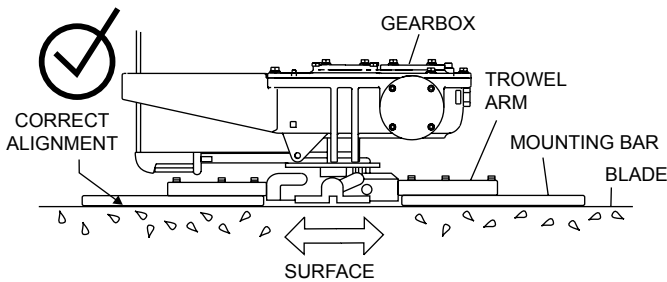

Figure 34. Correct Spider Plate Alignment
2. Pitch the blades as flat as possible. The adjustment bolts should all barely make contact with the lower wear plate on the spider. If one is not making contact, adjustment will be necessary (Figure 34).
Figure 34 illustrates the “correct alignment” for a spider plate (as shipped from the factory).